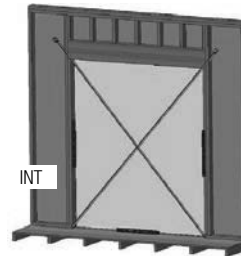

FIG. 1
- Verify the rough opening is flat, plumb, level and square. (Fig. 1)
- Take diagonal measurements to check for square. (Fig. 1)
- Make sure the bottom sill area of the rough opening is flat and level. Correct rough opening if sloped toward the interior, out of level or humped. (Fig. 1)